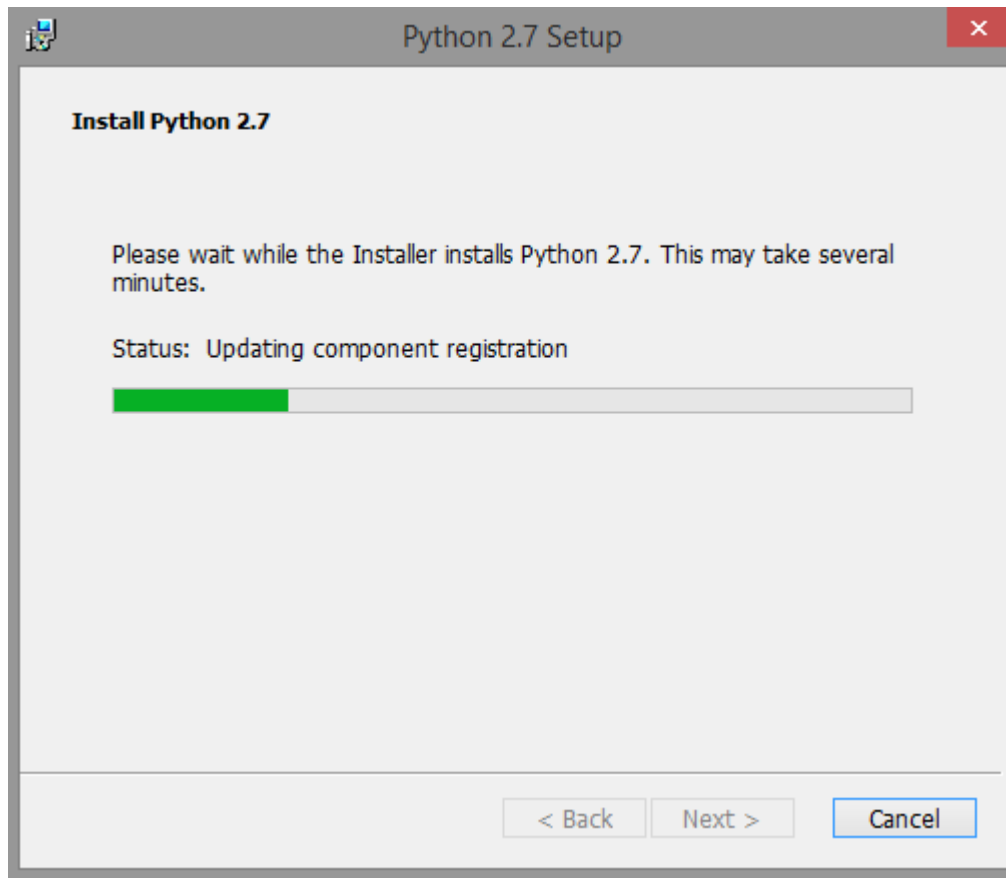

Figure 1-12. Python Installation Progress
- Python installation starts. The progress is updated as shown in Figure 1-12.